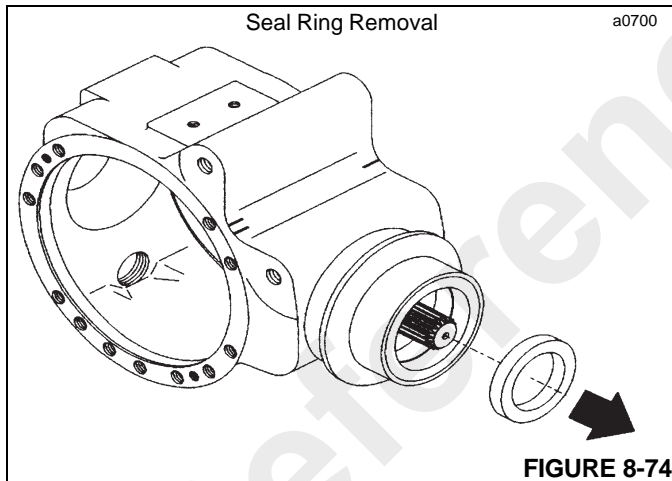

FIGURE 8-74
1. Using a puller, remove the seal ring (Figure 8-74) from the center housing. The seal ring will be damaged.